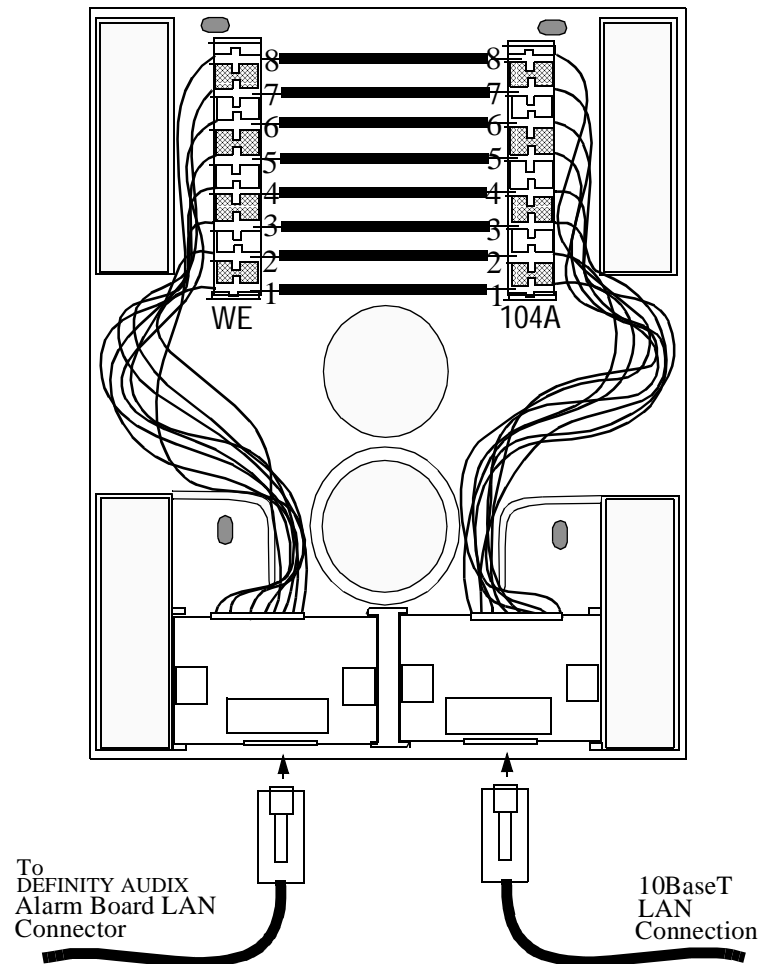

Figure 2-6. 104A Mounting Block
- A 104A connecting block will be mounted on the wall within reach of this connector. This is supplied by AT&T. Eight wires must be hard-connected across the two mounting blocks inside the 104A prior to mounting it to the wall, as shown in Figure 2-6, *104A Mounting Block*. The ends of each wire